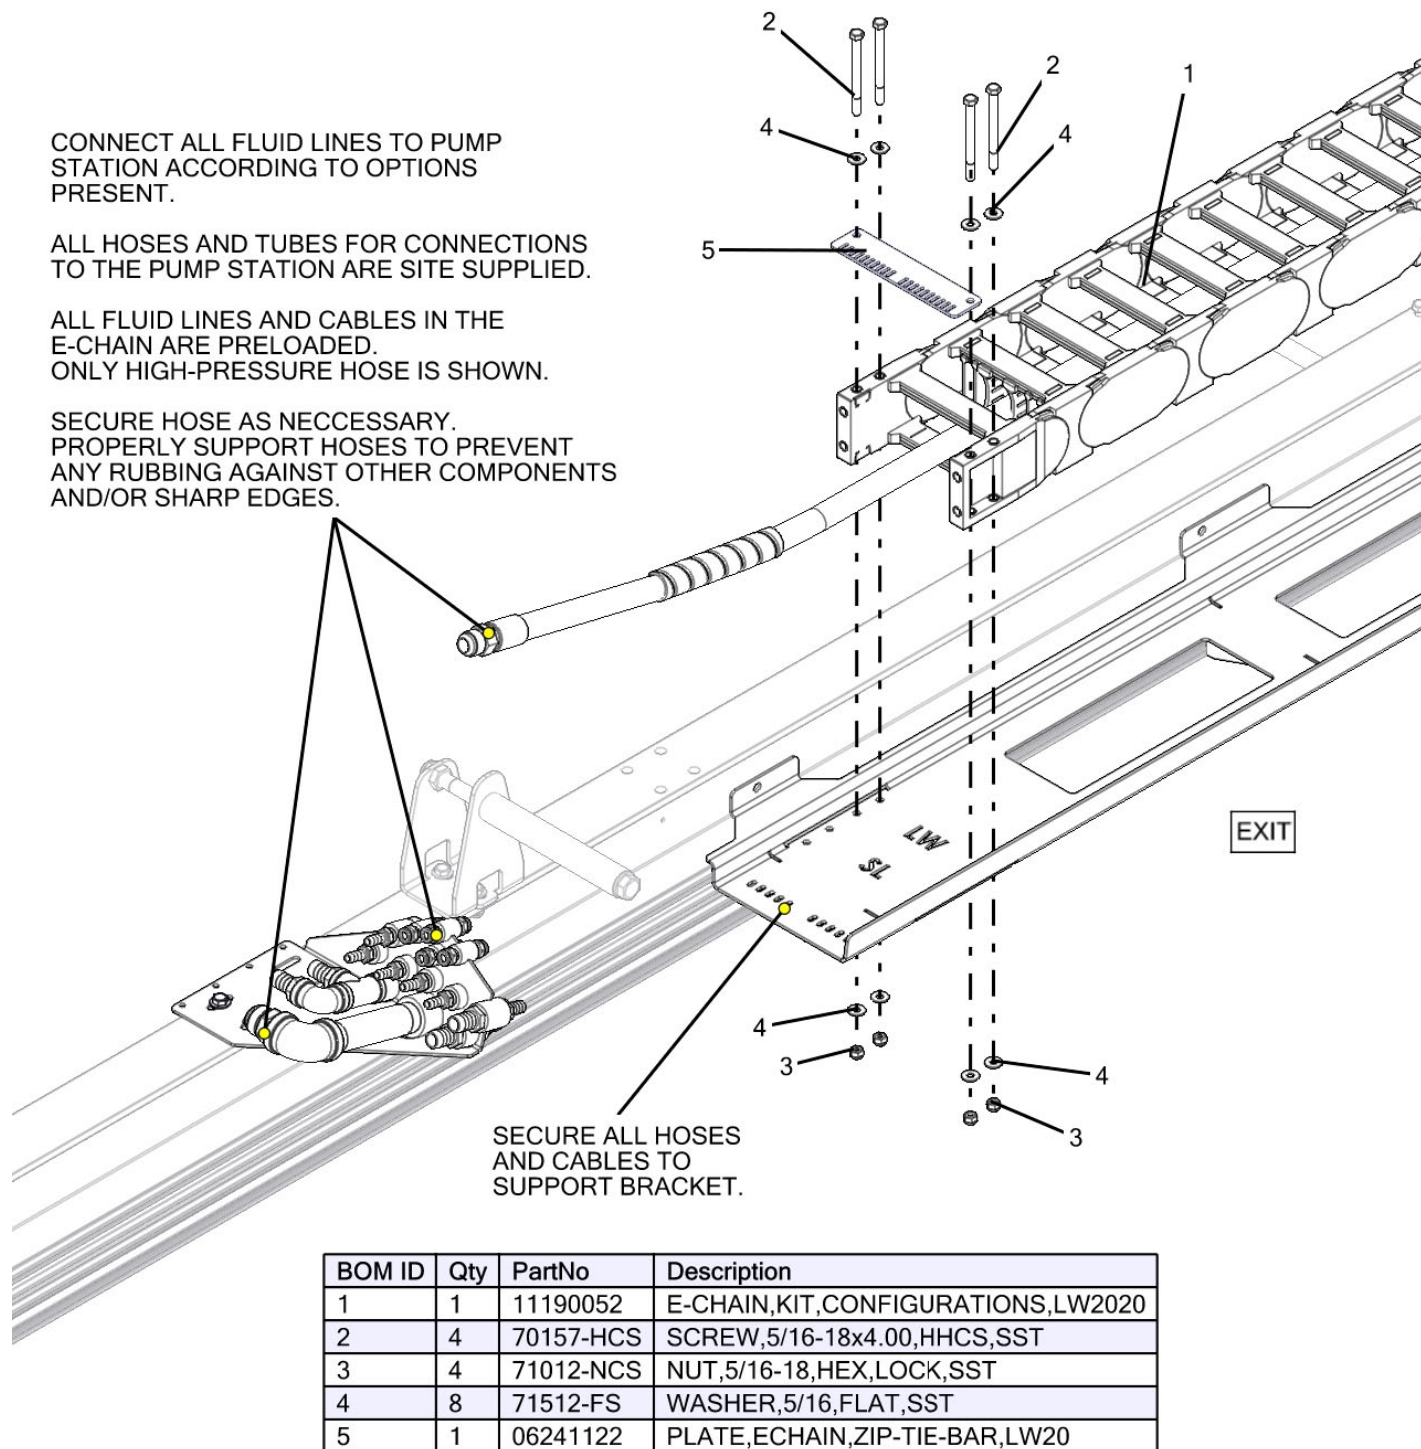

Figure 72 – Frame End E-chain Mounting
- Using the fasteners provided, connect the "FRAME" end of the E-chain to the tray holes as shown in Figure 72.
- Connect all other tubing and hoses to the bulkhead manifold. The lines are all labeled from the factory and are to be connected to the corresponding fittings as shown on Figure 72 and Figure 74.